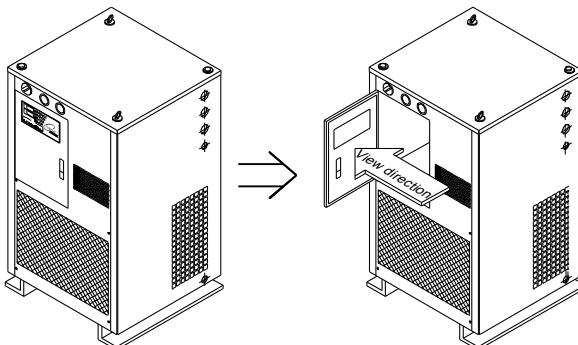

Figure 30-1
- When AL-4 shows, switch 20/21 and 22/23 wires (See Figure 30-1, 30-2), after this action, if still shows AL-4, then please contact your agent to change the controller.